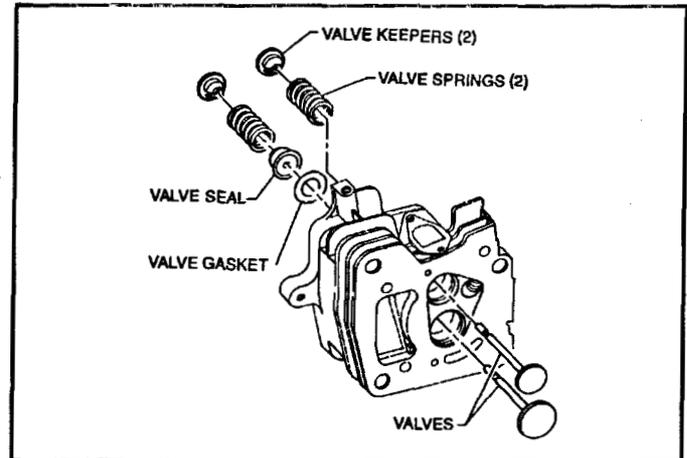

Figure 86
3. Install the washer and valve seal on the stem of the intake valve. See Figure 86.